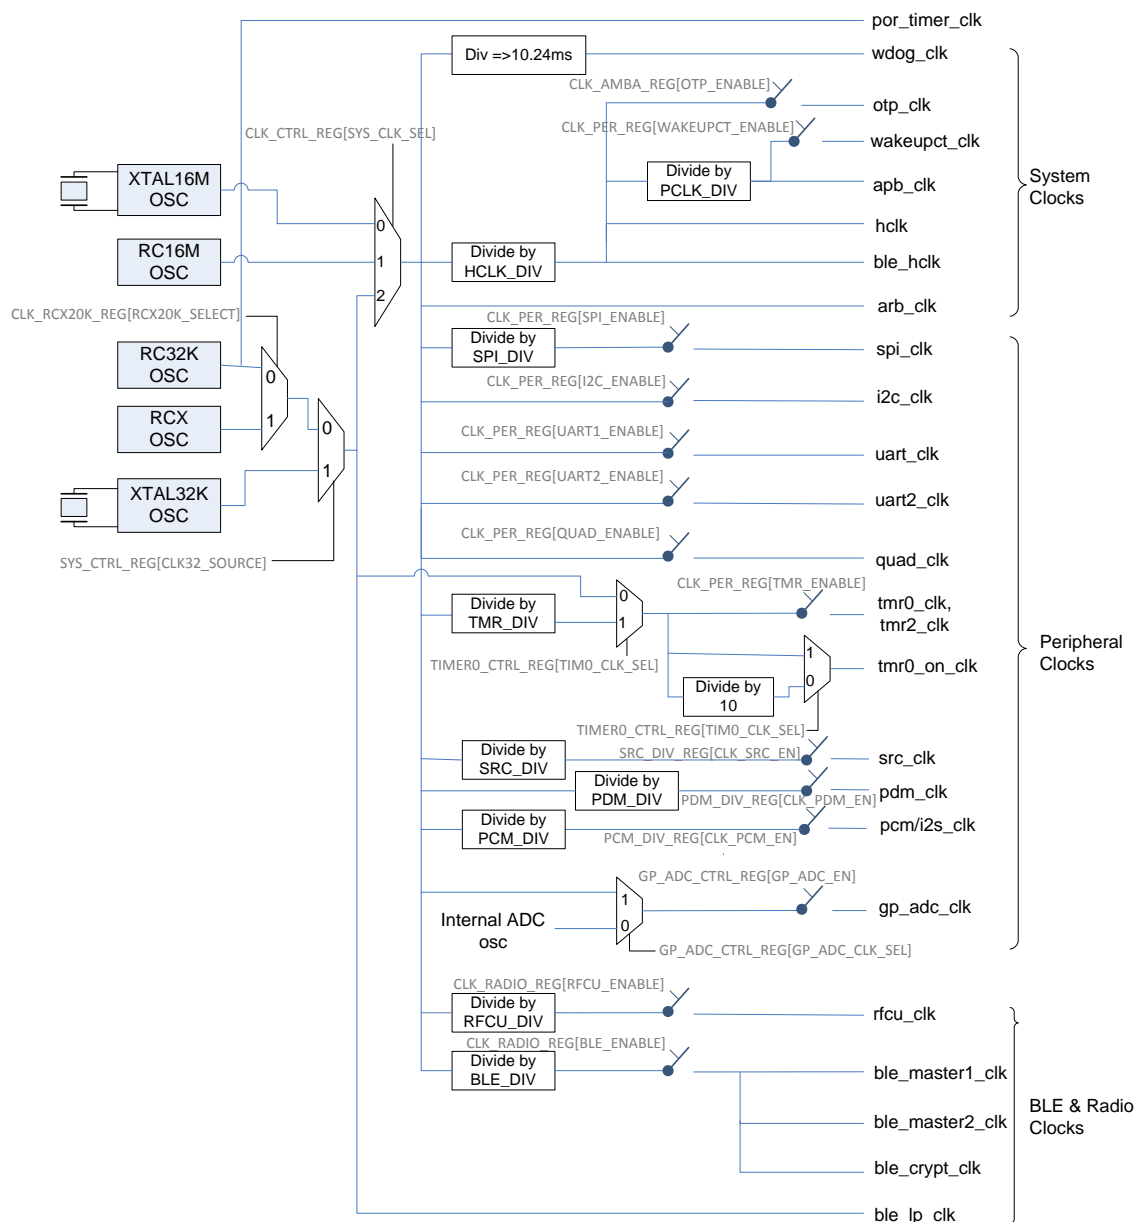

Figure 20: Clock Generation Block Diagram
The clock names depicted in Figure 20: Clock Generation Block Diagram are explained in Table 33:
- When the SPI block is set to Slave mode, then the spi_clk (as depicted in Figure 20) should be at least 4x the clock frequency provided by the external SPI Master. This is required for proper sampling of the data line.